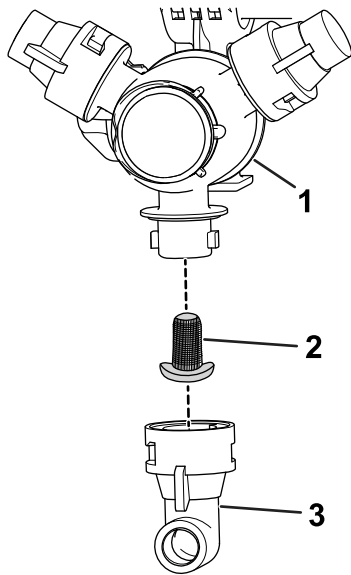

Figure 100
2. Remove the nozzle from the spray turret (Figure 100).
3. Remove the old nozzle filter (Figure 100).
4. Install the new nozzle filter (Figure 100).
5. Install the nozzle onto the spray turret (Figure 100).